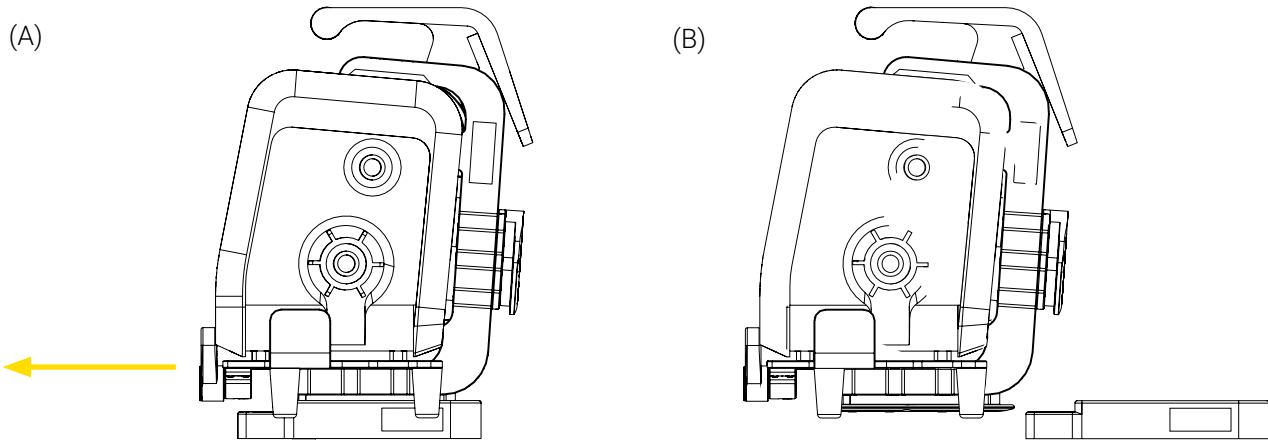

Figure 12: Removing the Bracket Pro Serie 60 - GR from the Standard Surface Base
2. Press and hold the quick release button of the Standard Surface Base, then pull the medical device horizontally out of the base using the handle (Figure 12). Set the medical device.